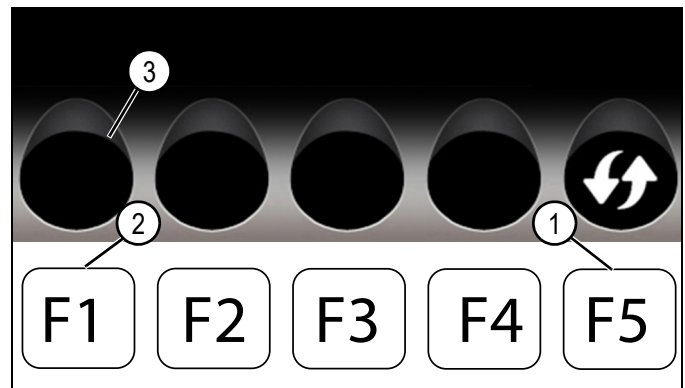

Figure 3-64
NOTE: The selected tool icon will illuminate on the Tool Select screen (3). See Figure 3-64.
2. Press function button F1 (2) to confirm the selection and proceed to the next screen.
3. Press function button F5 (1) to return to the Main Menu screen without making any selection.